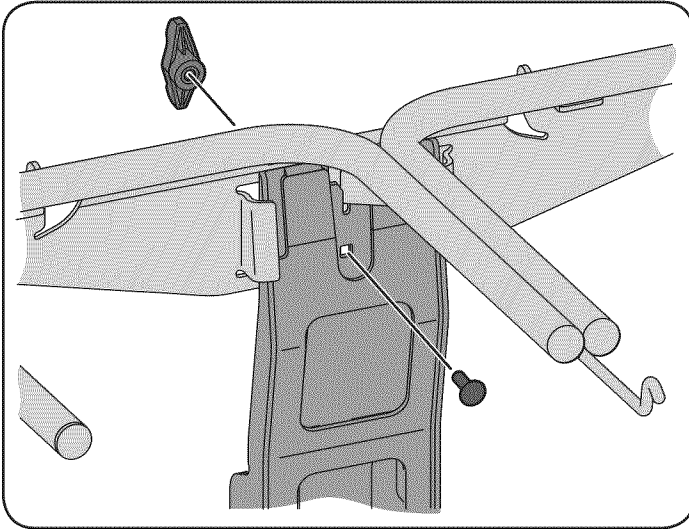

Figure 9
7. Install the hanger assembly onto the upright support bracket using a carriage bolt (710-0276) and wing knob (720-04122) from hardware pack 689-00312. See Figure 9.